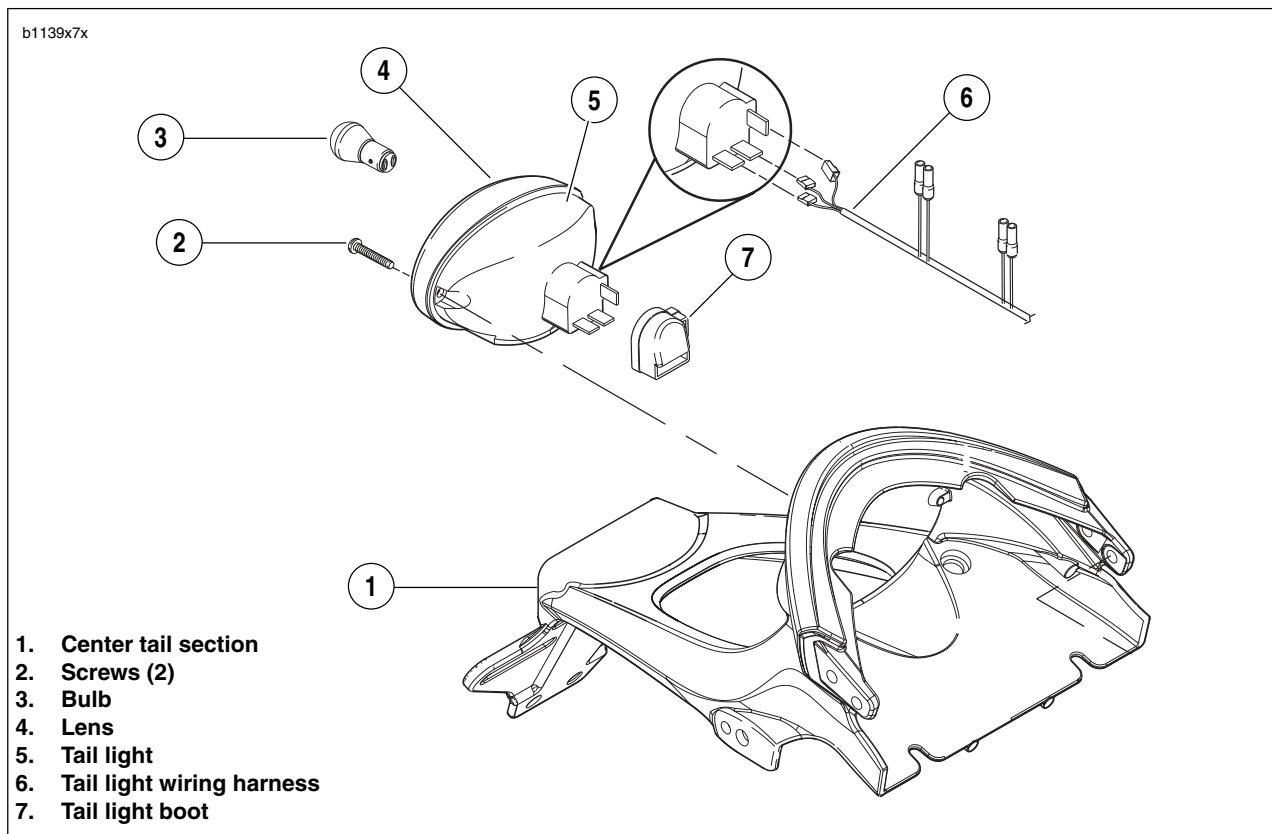

Figure 7-45. Tail Lamp Assembly
1. See Figure 7-45. Remove two screws (2) to detach tail light lens (4) and tail light (5). If replacing bulb (3), turn counterclockwise and remove.
3. Disconnect three connectors [93] from tail lamp harness (6).
1. See Figure 7-45. Attach the three tail light harness connectors [93] (7).
2. If removed, install tail lamp bulb (3).
- b. Install tail light lens (4) and tail light (5) with two fasteners (2).